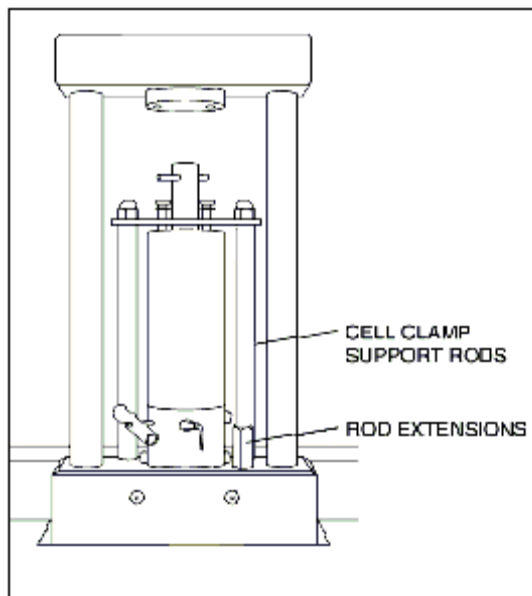

Figure 14
1. Unscrew and remove the cell clamp support rods from the lower platen on the press and install the two support rod extensions (PC-418) (from the FRENCH Press unit [FA-078A]). Replace the support rods by attaching them to the rod extensions (see Figure 14).
2. Place the cell on the lower platen between the aligning pins. Secure in place with the cell clamp. See Figure 14 for a description of the aligning pins and press cell clamp. Ensure that the piston handle is approximately perpendicular to the cell clamp so the T-handle cannot make contact with the cell clamp thumb screws.
2. Place the cell on the lower platen between the aligning pins. Secure in place with the press cell clamp. See Figure 14 for a detailed description of the aligning pins and press cell clamp.